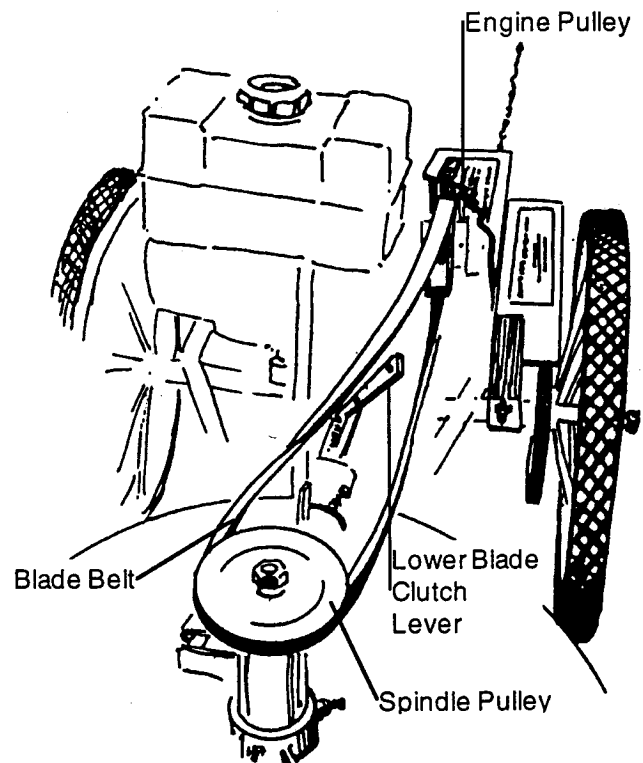

Figure 13
6. Place the new blade belt over the lower blade clutch lever, then loop the end of the belt over the engine pulley (closest to engine). Looking from the mowing deck toward the handlebars, the belt should twist to the left (*Figure 13*). Pull the belt around the spindle pulley.